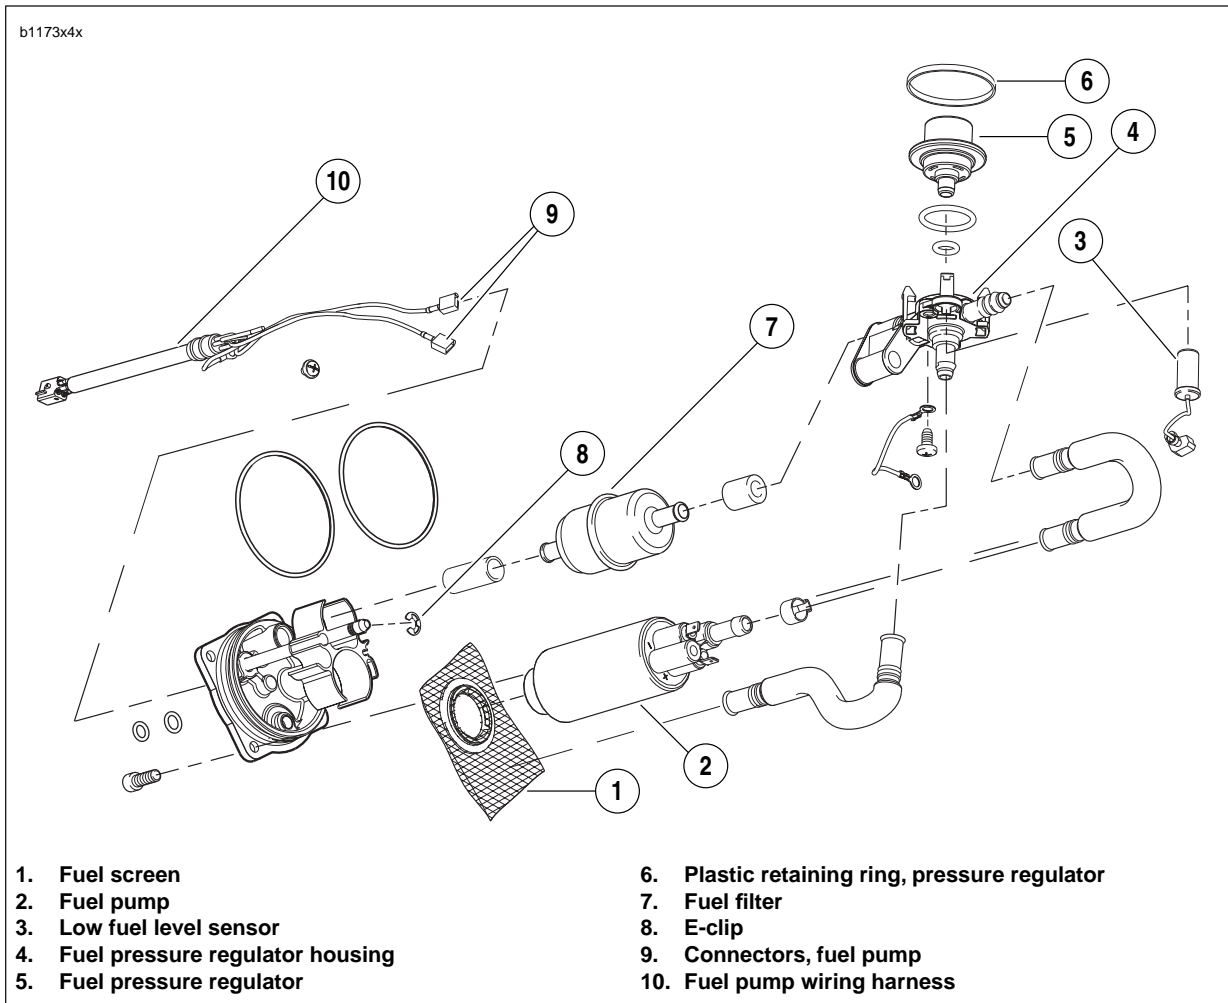

Figure 4-97. Fuel Pump Assembly
3. Remove ground fastener (12) from the fuel pump and fuel filter bracket (9).
4. Remove fuel pressure regulator E-clip (7).
5. Pull regulator housing (3) and fuel pump (8) with bracket (9) as an assembly.
6. See Figure 4-97. Pry fuel screen (1) from fuel pump (2).
8. Install regulator housing assembly (4, 5) and fuel pump (2).
9. Install E-clip (8) in bottom groove on shaft.